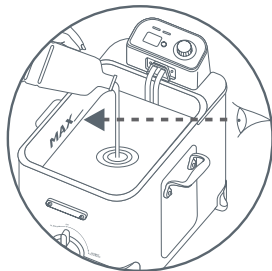

Fig. 6
- Fill the bowl with oil – fig. 6.
- Never exceed the maximum level indicated in the bowl – fig. 6.